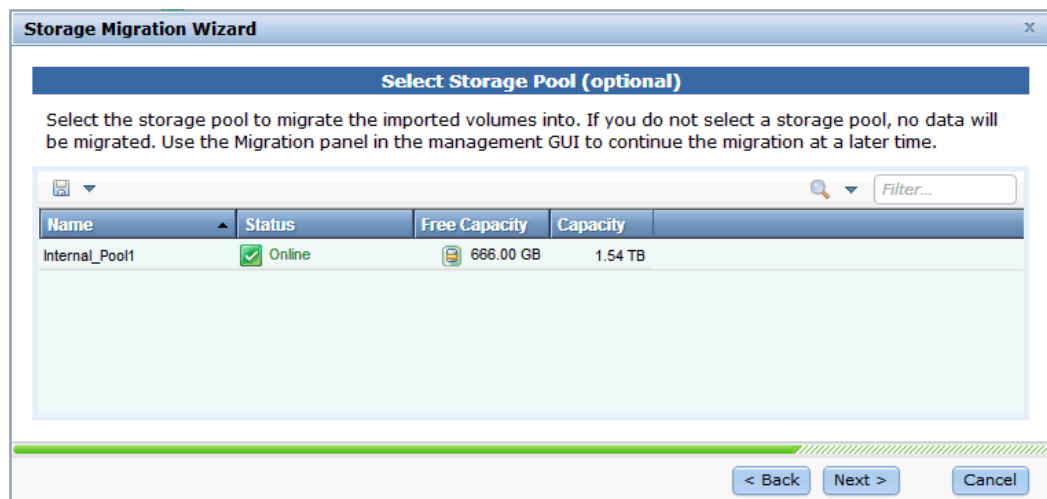

Figure 7-19 Storage Migration Wizard step 7 - select Storage Pool
9. Select the destination storage pool for data migration in Step 7, and if you do not select a storage pool, no data will be migrated. Click **Next** to continue (Figure 7-19).